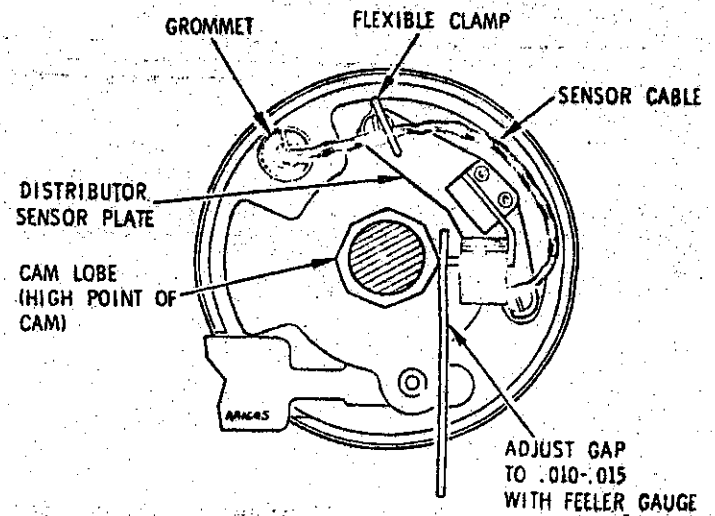

FIGURE 4
6. Route sensor cable (grey) as indicated. (Figure 2 for CW distributor or Figure 4 for CCW distributor) Slip cable through hole in base of distributor housing and fit split grommet around sensor cable. Then insert grommet into hole from underneath distributor housing, being sure to allow enough slack in sensor cable to account for vacuum movement of breaker plate. Hook flexible clamp around sensor cable to hold sensor cable away from cam.